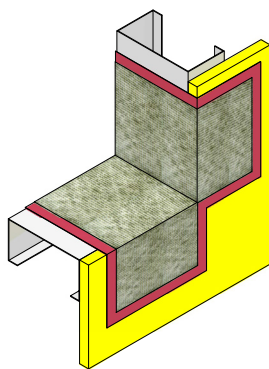

Figure 22
2. Cut WS Flash to desired size. Remove release film immediately before application. Using a roller firmly press the WS Flash into the corner, onto the surface, keeping the membrane smooth. (See Figure 22)